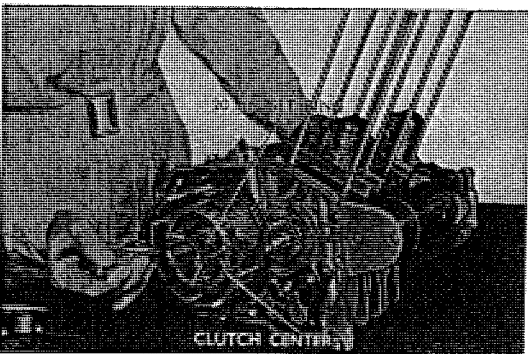

Fig. 3.75 Removing the oil filter cap
2. By using plier, clip the rib of the oil filter cap and pull out in parallel. (Refer to Fig. 3.75)